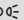

Fig. 37 Instrument console: light panel.
- Turn the switch to the required position >>> **Fig. 37**.